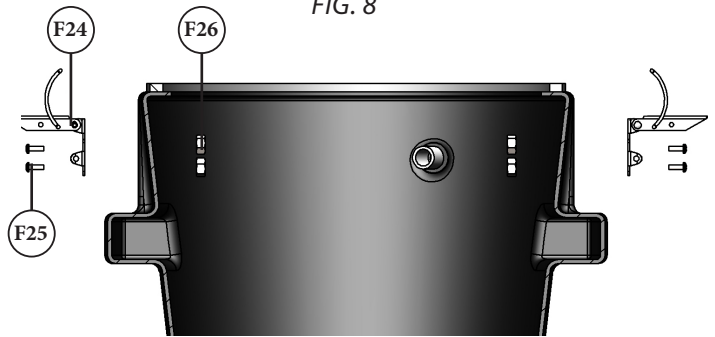

FIG. 9
Secure Draw Latches (F24) to Cone Assembly (B) with Pan Head Screws (F25) and Nylock Nuts (F26). [FIG 9.]